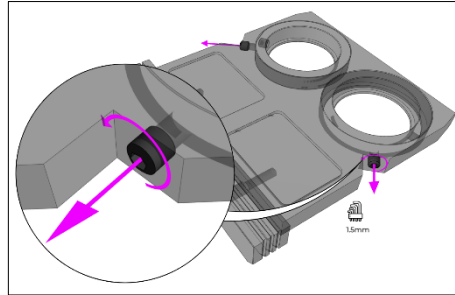

Figure 43
2. Loosen the two filter retaining screws on the excitation filter holder using a 1.5 mm hex key (Figure 43). The retaining screws should not be removed.